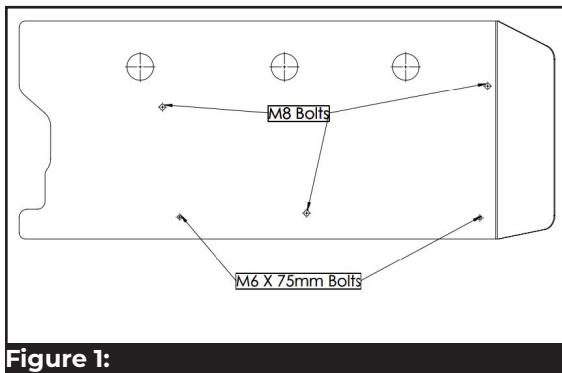

Figure 1:
- 2 Insert the M8 bolts through the backing plate and then the 13mm spacer. Also, insert the M6 X 75mm bolts through the molle plate, 1 inch spacer, backing plate, and 13mm spacer as shown in the figure below (figure 1).